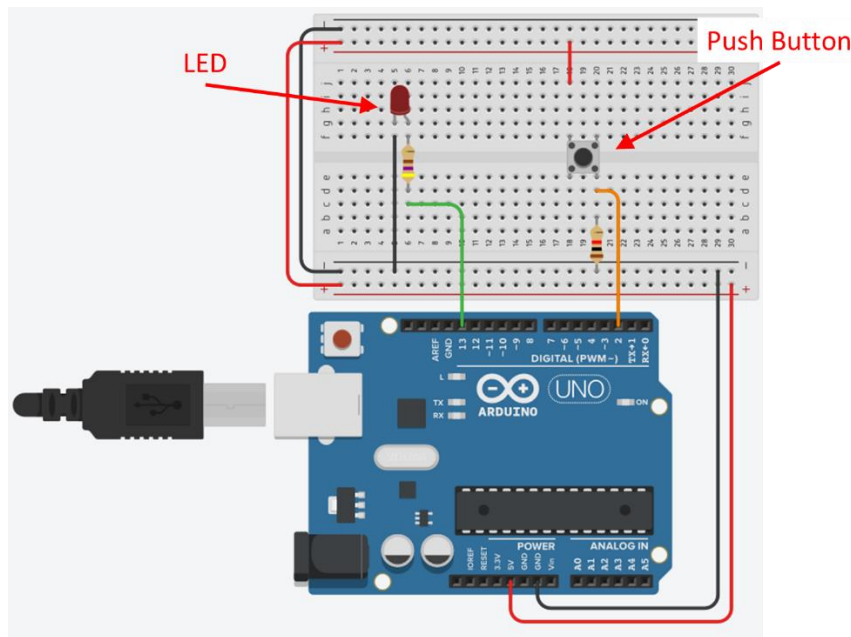

Figure 5. Diagram illustrating the Circuit configuration for the Push Button and LED Exercise
The aim of this exercise is to use a digital input, in this case from a push button, to trigger the Arduino to produce a digital output. In this case and LED, as illustrated in the circuit shown in Figure 5.
1. Using the Kit of parts provided, connect the circuit as shown in Figure 5.